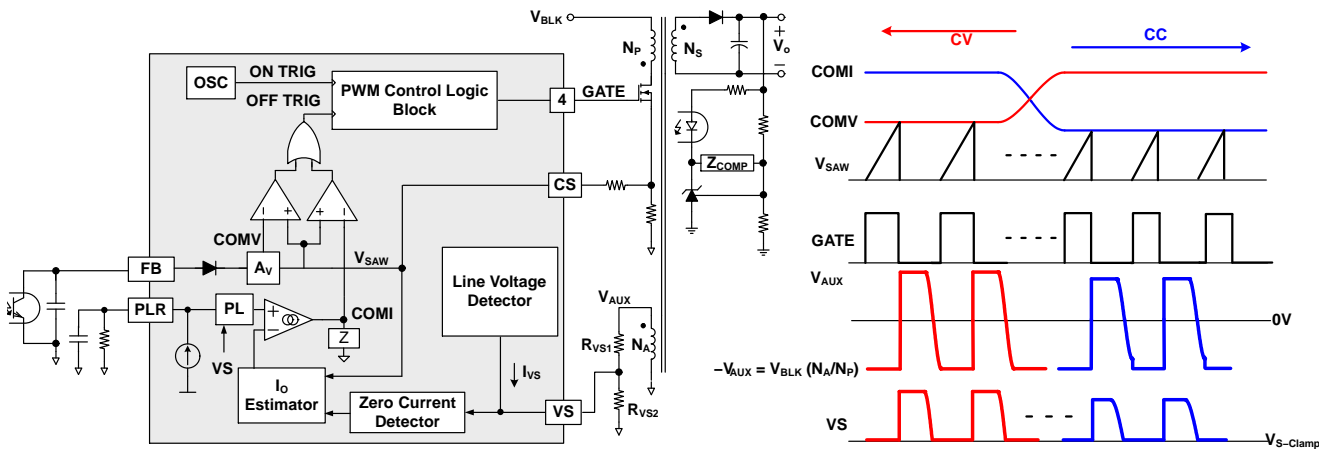
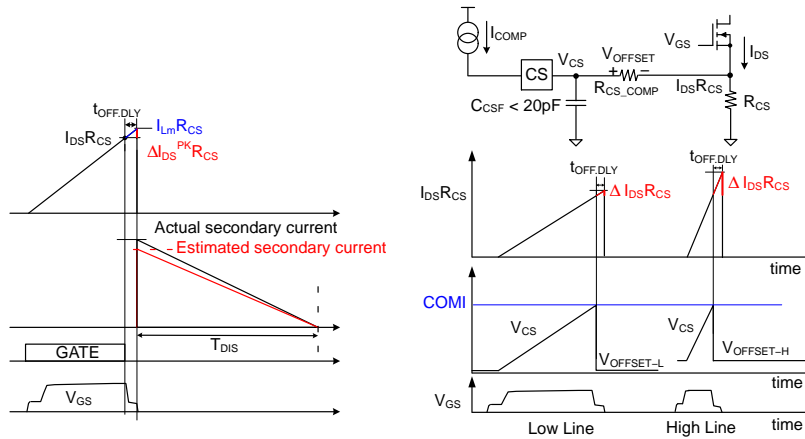

Figure 27. Simplified PWM Control Circuit and PWM Operation for CV/CC Regulation
Figure 29. Effect of MOSFET Turn-off Delay and Line Voltage Compensation
Figure 27 shows a simplified CV / CC PWM control circuit of the FAN604P. The Constant Voltage (CV) regulation is implemented in the same manner as the conventional isolated power supply, where the output voltage is sensed using a voltage divider and compared with the internal reference of the shunt regulator to generate a compensation signal. The compensation signal is transferred to the primary side through an opto-coupler and scaled down by attenuator  $A_V$  to generate a COMV signal. This COMV signal is applied to the PWM comparator to determine the duty cycle.
These two control signals, COMV and COMI, are compared with an internal sawtooth waveform ( $V_{SAW}$ ) by two PWM comparators to determine the duty cycle. Figure 27 illustrates the outputs of two comparators, combined with an OR gate, to determine the MOSFET turn-off instant. Either of COMV or COMI, the lower signal determines the duty cycle. During CV regulation, COMV determines the duty cycle while COMI is saturated to HIGH level. During CC regulation, COMI determines the duty cycle while COMV is saturated to HIGH level.
The output current estimation is also affected by the turn-off delay of the MOSFET as illustrated in Figure 29. The actual MOSFET’s turn-off time is delayed due to the MOSFET gate charge and gate driver’s capability, resulting in peak current detection error as
Where Lm is the transformer’s primary side magnetizing inductance. Since the output current error is proportional to the line voltage, the FAN604P incorporates line voltage compensation to improve output current estimation accuracy. Line information is obtained through the line voltage detector as shown in Figure 27. ICOMP is an internal current source, which is proportional to line voltage. The line compensation gain is programmed by using CS pin series resistor, RCS\_COMP, depending on the MOSFET turn-off delay, tOFF,DLY. ICOMP creates a voltage drop, VOFFSET, across RCS\_COMP. This line compensation offset is proportional to the DC link capacitor voltage, VBLK, and turn-off delay, tOFF,DLY. Figure 29 demonstrates the effect of the line compensation.